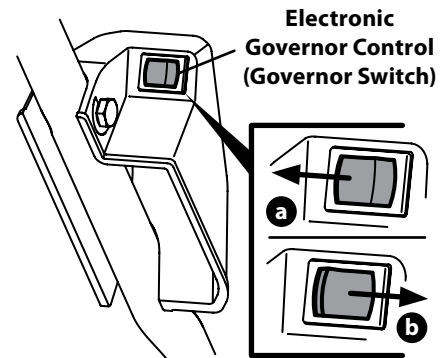

Figure 5-5
1. Perform the following to select engine speed. See Figure 5-5: